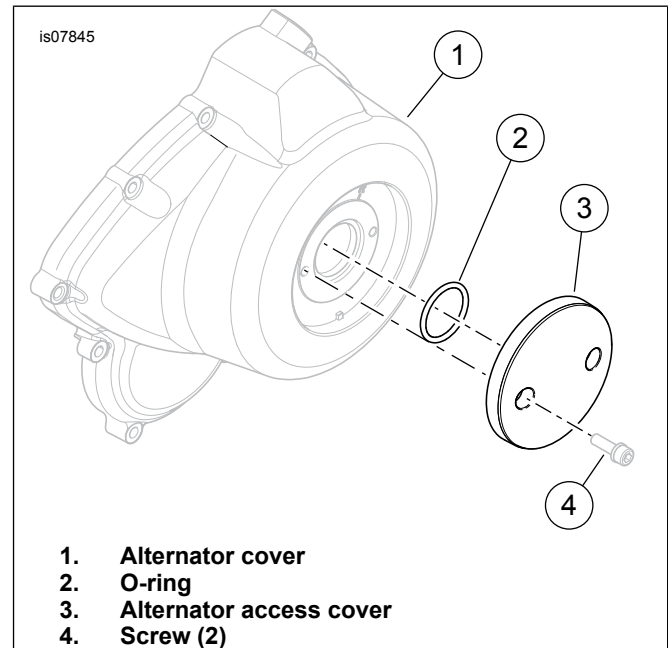

Figure 1. Alternator Access Cover
2. See Figure 1. Remove two screws (4). **For all kits except 25800091 and 25800114:** Retain screws for installation.
3. Remove and discard O-ring (2) and alternator access cover (3).